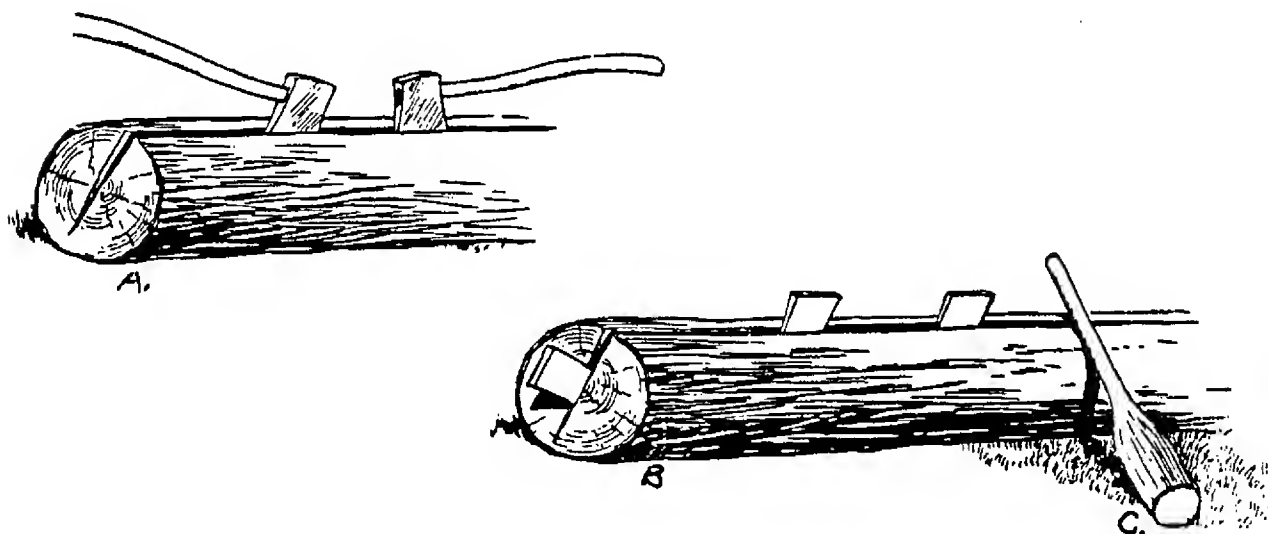

Figure 35
5. Log Splitting Even though wood chopping mauls and log splitting axes work very well, most logs can be split with 2 axes, as shown in Figure 35-A. Often times by looking for a small pre-existing split or crack, and using that niche to begin splitting, will make the job a little easier. Drive an axe into the side of the log near the end and drive the second axe in the same crack a few inches farther along, with the handle in the opposite direction, as shown in Figure 35-A. Repeat the process until the split has been completed.
Wedges may also be used for this purpose, as shown in Figure 35-B. Be sure not to use the axe as a hammer when driving the wedges. Use a sledge hammer or maul. If metal wedges are not available, you can make wooden wedges out of hardwood called gluts. If gluts are used, a beetle maul may be made for driving these wooden wedges. If the beetle is strong enough, it can also be used on metal wedges. A beetle is just a bottle-shaped hammer or club made out of hardwood, as shown in Figure 35-C.